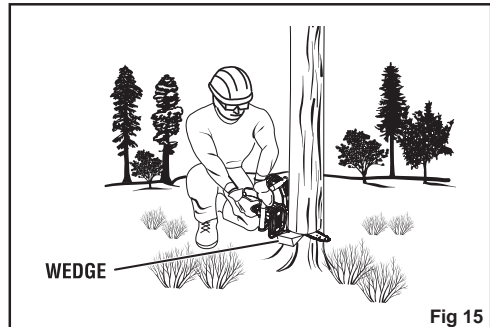

Fig 15
Always use the proper cutting stance described in this section. Never kneel when using the chainsaw except when felling a tree as shown in figure 15. Kneeling could result in loss of stability and control of the saw resulting in serious personal injury.
- On large diameter trees, stop the back cut before it is deep enough for the tree to either fall or settle back on the stump. Then insert soft wooden or plastic wedges into the cut so they do not touch the chain. The wedges can be driven in, little by little, to help jack the tree over. See Fig. 15.